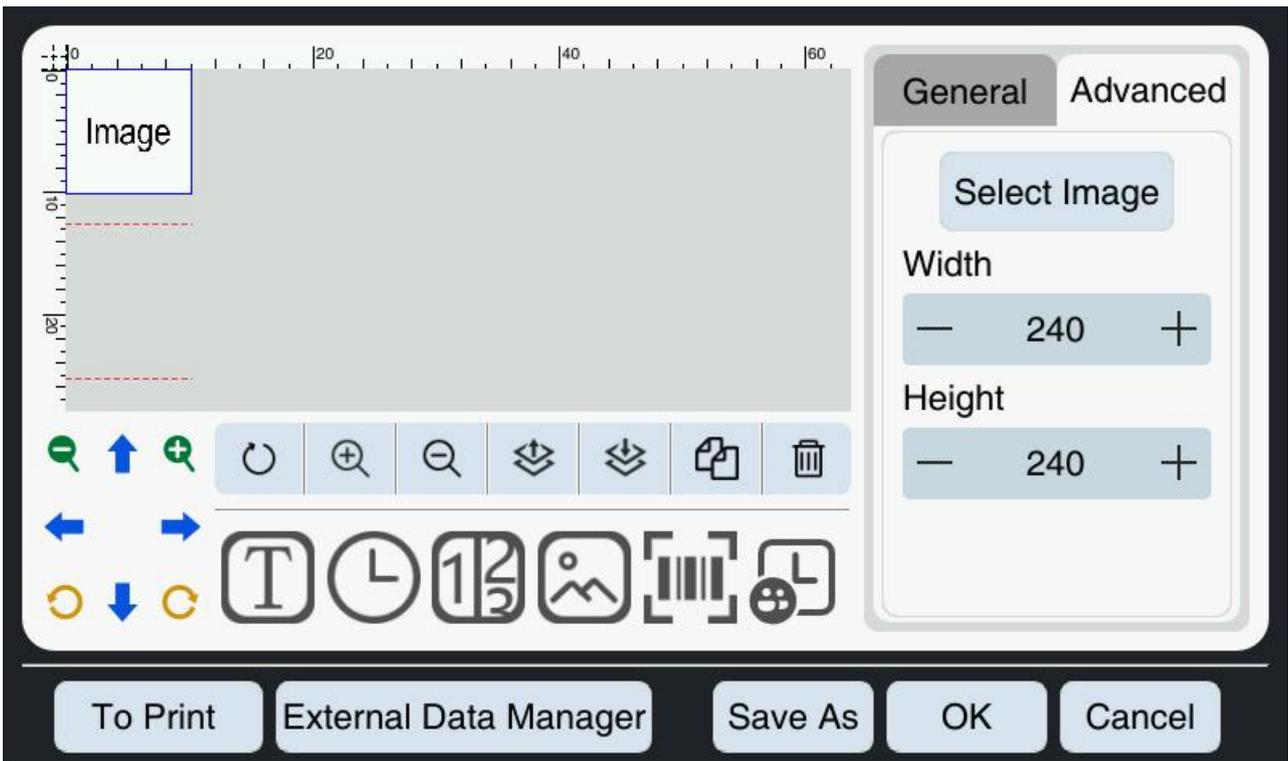

Figure 5-8 Image editing interface
- 1 . If you need to print the image , click the button. A default "image" image object will appear in the preview area. As shown in Figure 5-8.